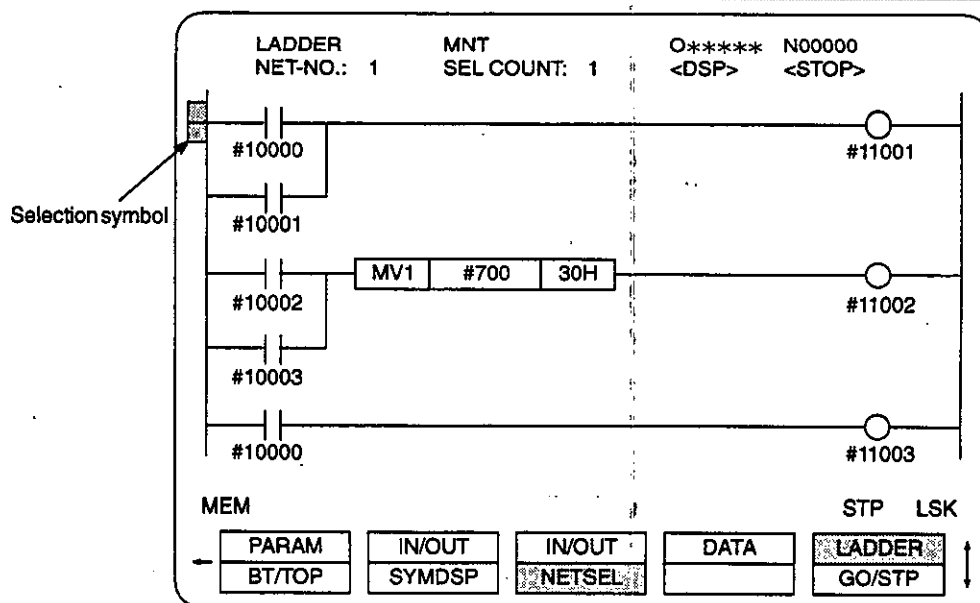

Fig. 8.2
- ① On the sequence ladder display screen, press the [WR] key when the net number to be selected is displayed.
- ② The selection symbol (see Fig. 8.2) is displayed and the net is set in the selected status.